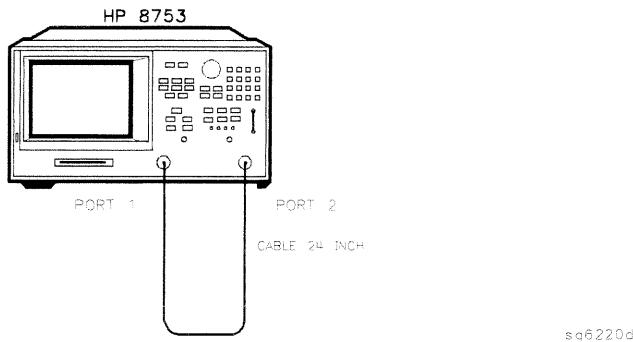

Figure 2-28. Setup for Test Port 1 Input Frequency Response
39. When the analyzer finishes the calibration sweep, connect the equipment as shown in Figure 2-28.